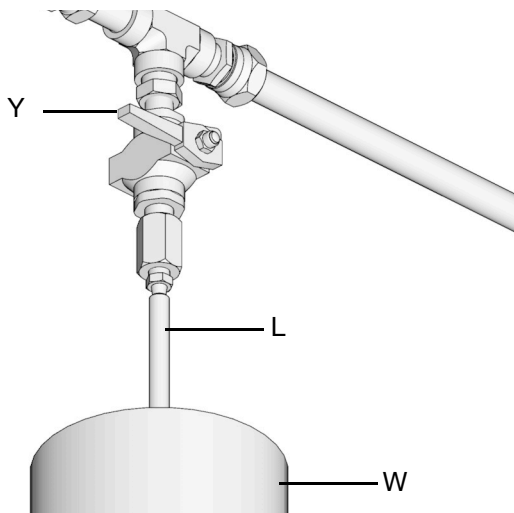

FIG. 24
1. To relieve pressure between the refill pump (F) and the auto-fill shut off valve (B), open the supply hose pressure relief valve (Y) (FIG. 24). The pressure releases and excess fluid drains out of the drain tube (L) and into the lubrication overflow container (W).